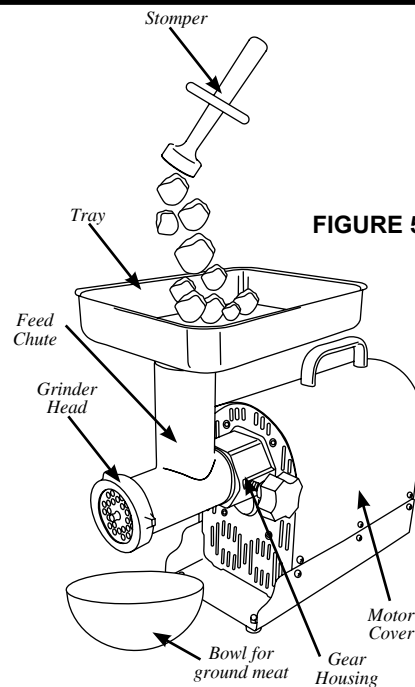

FIGURE 5
6. Place a dish or bowl to collect the ground meat at the end of the Grinder Head (Figure 5).